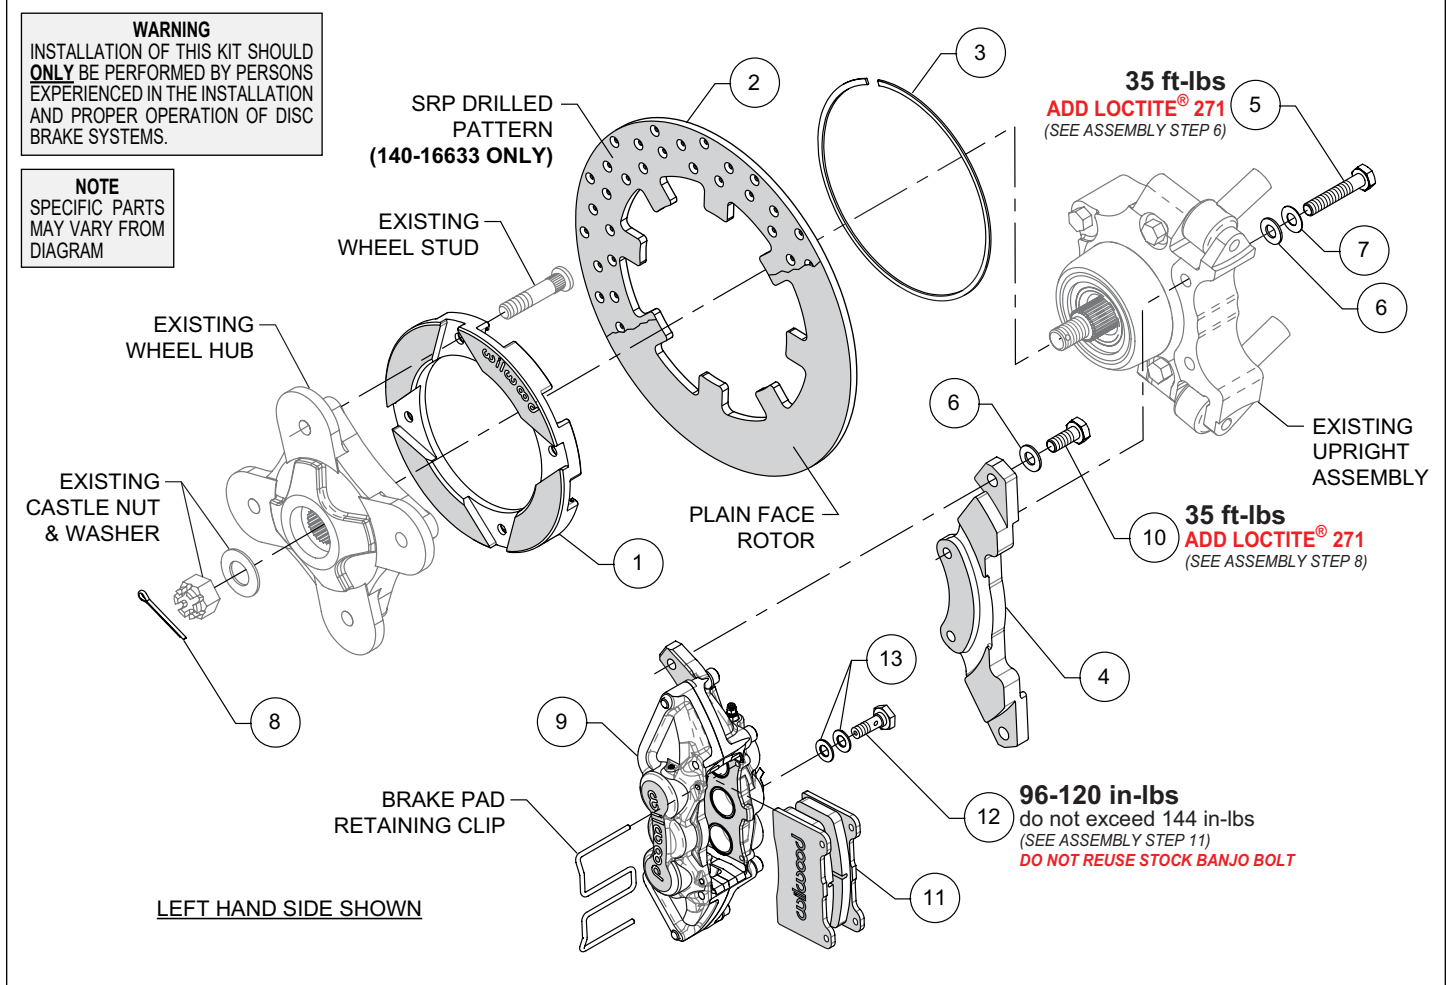

Figure 1. Typical Installation Configuration
NOTE: Numbers in parenthesis refer to the parts list and Figure 1 on the preceding pages.
STEP 2 Place the existing OEM wheel hub face down and position the rotor adapter (1) onto the wheel hub as shown in Photo 1. **NOTE:** The existing wheel hub must be free of dirt and debris or excessive rotor run out may result. Press the OEM wheel studs back in through the rotor adapter and OEM wheel hub.
STEP 3 Position the rotor (2) onto the rotor adapter (1), making sure the rotor lugs fit into the recesses of the rotor adapter, as shown in Photo 2.
STEP 4 Secure rotor to the rotor adapter using the snap ring (3) by simultaneously pushing down on the rotor and installing the ring into the groove in the rotor adapter, as shown in Photos 3 and 4. Carefully inspect snap ring to ensure complete engagement in the groove.
STEP 6 Orient the caliper mounting bracket (4), as shown in Figure 1 and Photo 7. Install using bolts (5) and washers (6). Place one .030" shim (7) between washer (6) and bolt (5) to ensure proper clearance between rotor and end of bolt, see Figure 1. Apply red *Loctite*® 271 to the bolt threads and torque to value shown in Figure 1.
STEP 7 Grease the splines and outer snout of the existing wheel hub with high temperature grease and slide the wheel hub/rotor assembly onto the axle, Photo 8. Attach using the existing OEM washer and castle nut. Tighten to OEM specifications and secure using cotter pin (8), Photo 9.
STEP 8 Secure the caliper (9) to mounting bracket (4) using bolts (10) and washers (6), Photo 10. Apply red *Loctite*® 271 to the threads, and torque to value shown in Figure 1.
STEP 9 Remove the pad retainer clip from the caliper (9). Insert the brake pads (11) into the caliper with the friction material facing the rotor, as shown in Photo 11. Reinstall the pad retainer clip, Photo 12.
STEP 11 Attach brake line to caliper. Orient brake line as shown in Photo 12 and connect to caliper using banjo bolt (12) and crush washers (13). Do not use lubricant or thread sealant on banjo bolt (12). Torque to minimum value shown in Figure 1. Check for leakage, increasing torque only to stop leakage without exceeding maximum specification. Replace crush washers and banjo bolt whenever reassembly is required. **Ensure hoses are routed to prevent contact with moving suspension, brake or wheel components.**